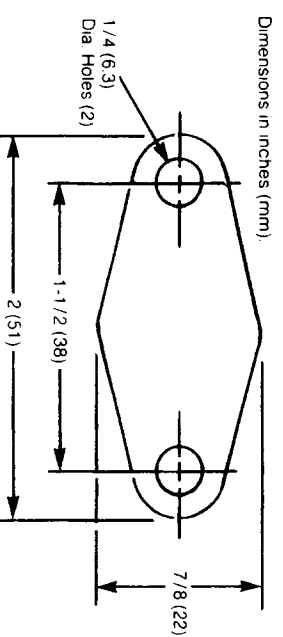

Figure 2. Sensor Flange Dimensions
3. Insert sensor through duct wall and drill two (2) 1/8" (3 mm) holes.
4. Fasten sensor flange with two (2) sheet metal screws (#8 x 1.2" slotted head Type A screws recommended) using flange as a template. (See Figure 2 for mounting dimensions.)